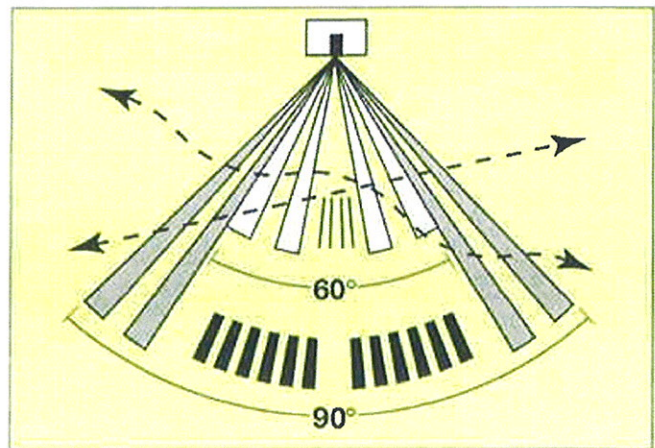

Fig 3. Movement across the field of view
1. Passive infrared detectors work much better when the heat source is moving across the field. (See Fig 3. below)
Cover part of the sensor lens with tape so that the sensor cannot detect motion on that part of the field. Refer to Figs 3 & 4 (field of view diagrams.)